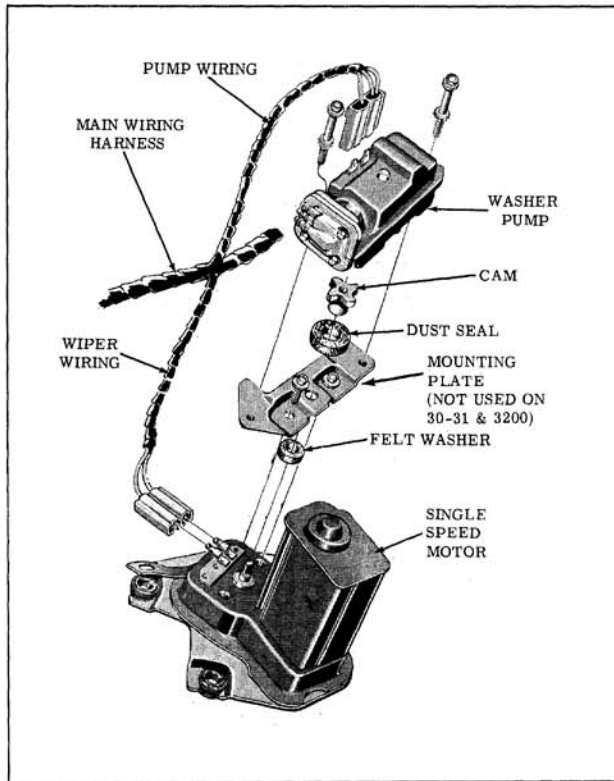

Fig. 13-163 Washer Mounting
- a. Remove the two washer pump mounting screws (Fig. 13-163) and carefully lift the washer pump off the wiper.
- a. Support crankarm end of wiper output shaft (threaded end), and using a suitable mallet, drive the four lobe cam on the wiper output shaft until it bottoms against the shoulders of the shaft flats. (Fig. 13-163)